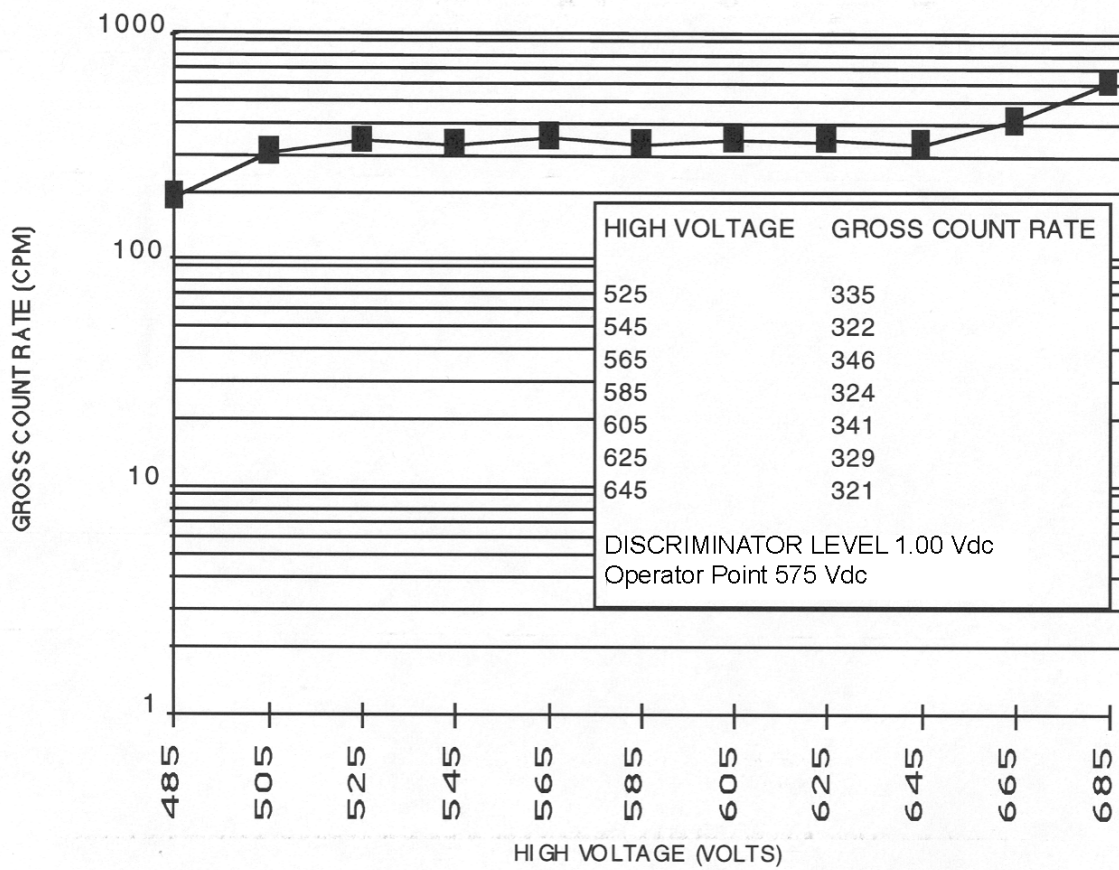

Figure 4-1. Detector Plateau (Typical)
6. Plot the resulting data, gross count rate vs. high voltage. Locate the plateau where the slope is minimized (between the minimum voltage of 500 Vdc and the maximum voltage 650 Vdc). The operating point should be the mid point of this plateau. Figure 4-1 is an example of the detector plateau.